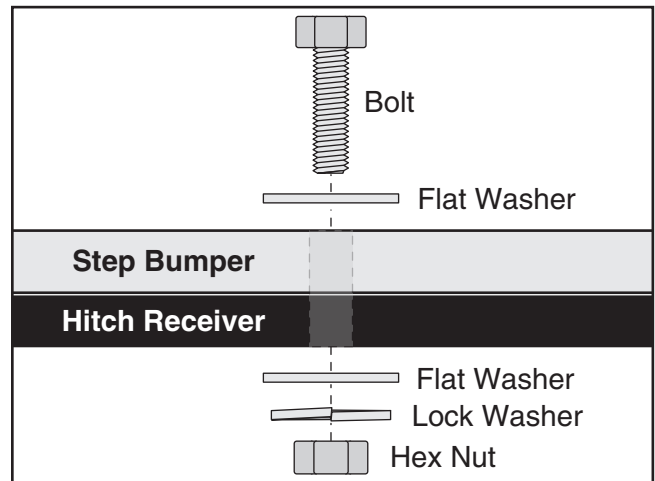

Figure 2. Fastener configuration for attaching the hitch receiver to the step bumper.
2. Use hardened $\frac{1}{2}$ " steel bolts, flat and lock washers, and hex nuts, to attach the hitch receiver to the step bumper, as shown in **Figure 2**.